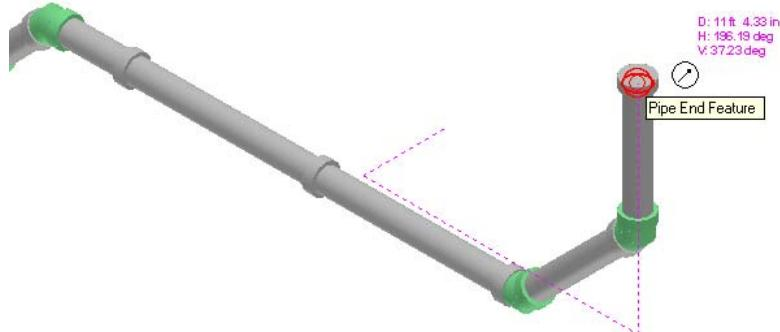

Figure 38: Repositioning of the Target Point
67. Set the PinPoint mode to **Rectangular Coordinates**. Select the **Reposition Target** option on the **PinPoint** ribbon and place the target at the cleanout located in the lateral sewer line, as shown in Figure 38.